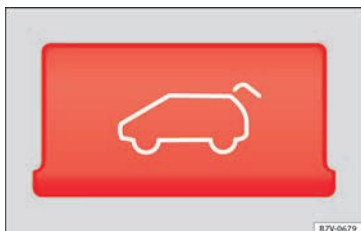

Fig. 6 Detailed view of the centre console button for unlocking the rear lid
- Press the  button on the centre console » » Fig. 6. The rear lid will be automatically opened.